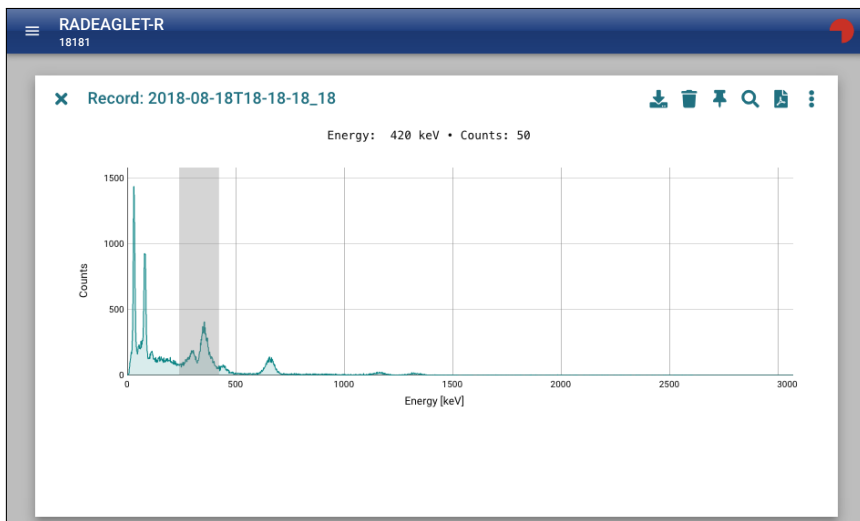

Figure 107: Zooming into the spectrum
2. Drag to the other end of the ROI. The region will be accented (Fig. 107, p. 105).